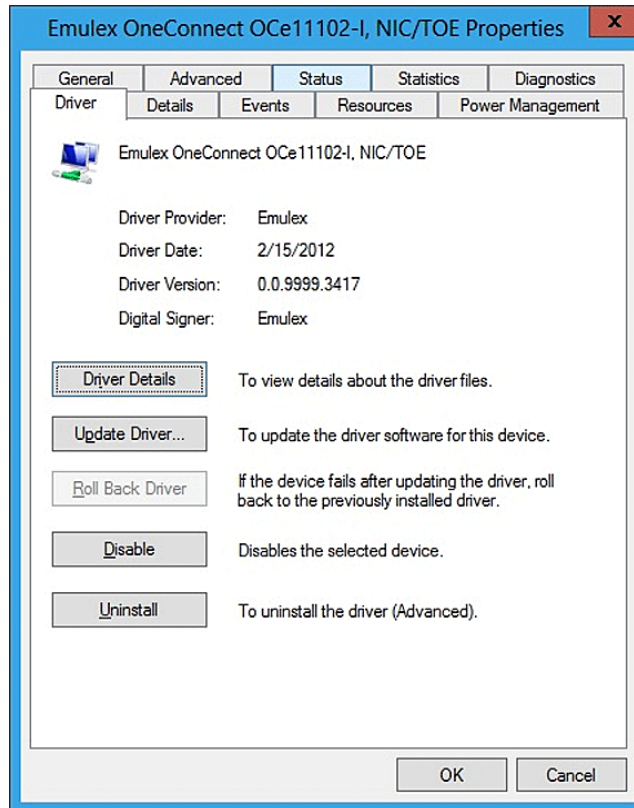

Figure 3-5 Emulex NIC Driver Properties Page
3. Open the **Network Adapters** item, find the Emulex device and right-click it. Select **Properties** from the context menu. The Properties dialog box opens showing the Driver page (see Figure 3-5 on page 80). The Driver page contains the driver version number.
3. Open the **Network Adapters** item, find the Emulex device and right-click it. Select **Properties** from the context menu. The Properties dialog box opens (see Figure 3-5 on page 80).
7. Open the **Network Adapters** item, select the Emulex device and right-click. Select **Properties** from the context-menu. The Properties dialog box opens showing the Driver page (see Figure 3-5 on page 80).